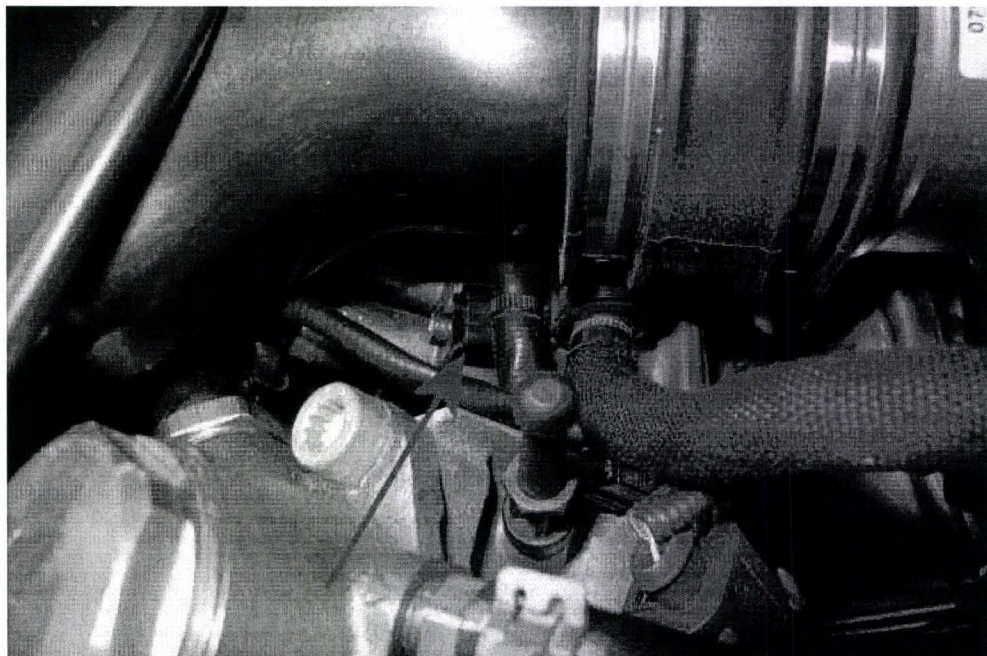

Figure 3
4. Remove the loom clip (Figure 3) from the retaining stud